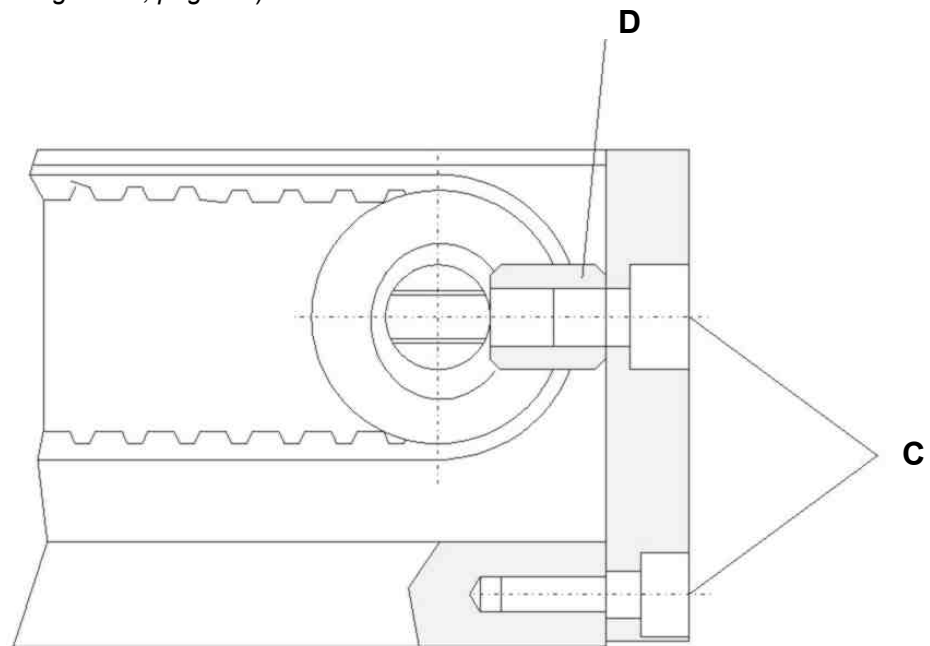

Figure 16: Reversing Unit Module 105 / Module 142
Remove the end plate by undoing the four connecting screws (C). The toothed belt is relaxed (see Figure 16, page 25).
The two spacer bushings (Figure 16, D) must be fitted to limit and control the tensioning of the toothed belt.
- Remove the end plate by undoing the four connecting screws (see Figure 16, **C**). The toothed belt is relaxed.
- Replace the reversing unit, use the old spacer bushings (see Figure 16, **D**).
- Fit the end plate (see Figure 16, **C**).
The two spacer bushings (see Figure 16, **D**) must be fitted as shaft stops in order to limit and control the tensioning of the toothed belt. Use the old spacer bushing pairs (D).